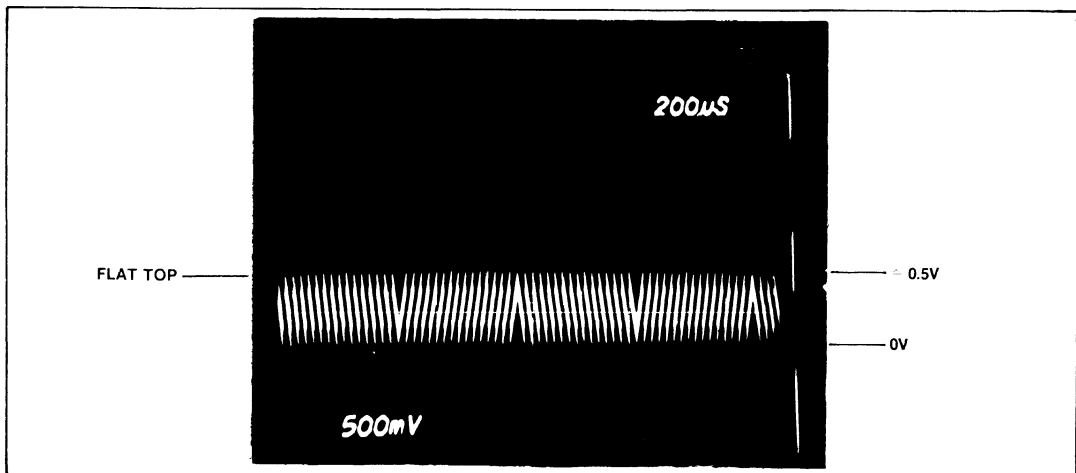

Fig.9 Test waveform at second SP9754 input TP(3)
2. With scope at TP(3) set RV5 for a flat signal as Fig.9.
3. Adjust RV4 to sit signal at 0V as Fig.9. Note RV5 and RV4 interact and some iteration may be needed.